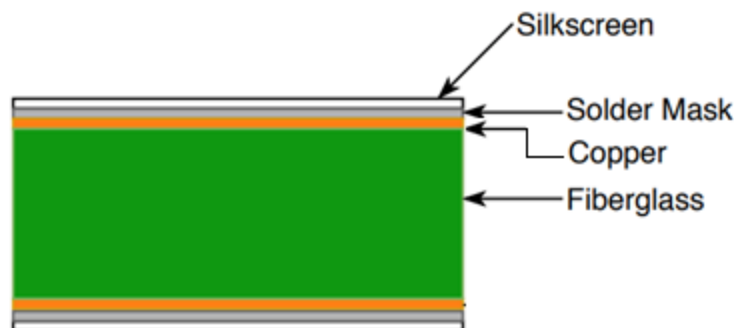

Figure 2. Double-Sided PCB Layers
A PCB is sort of like a sandwich of layers. There are alternating layers of different materials which are laminated together with heat and adhesive such that the result is a single object. The layers are illustrated by Figure 2. These layers are:
10. Add the necessary power supply connections as depicted in page 24 and in figure 2 page 8.